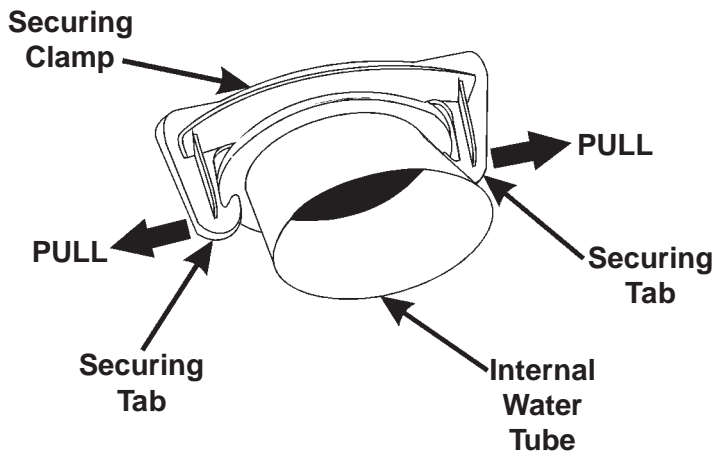

Fig. 3-6
3. Pull the securing tabs of the clamp holding the internal water feed tube to the pump outlet nozzle and remove the clamp. (Fig. 3-6)